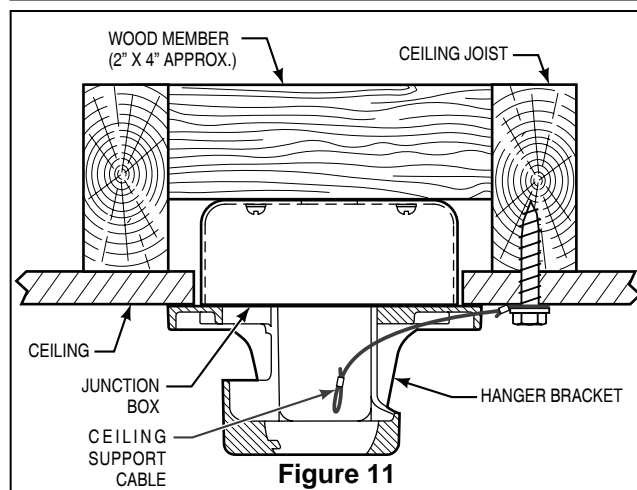

Figure 11
1. Securely attach the hanger bracket to the outlet box using the outlet box screws and washers supplied with the outlet box. (Figure 11)
2. Drill a 1/4" pilot hole into the building structure to prevent splitting or cracking with installation of the lag bolt. Using the 3/8" x 2" lag bolt and flat washer, attach safety cable to ceiling joist or wood structural member. The lag bolt will pass through the flat washer, safety cable loop, and into the building structure. (Figure 11)
NOTE: Ceiling support cable cannot be secured to junction box only, it must be directly secured to ceiling joist or structural member using the 3/8" x 2" lag bolt and flat washer. (Figure 11)